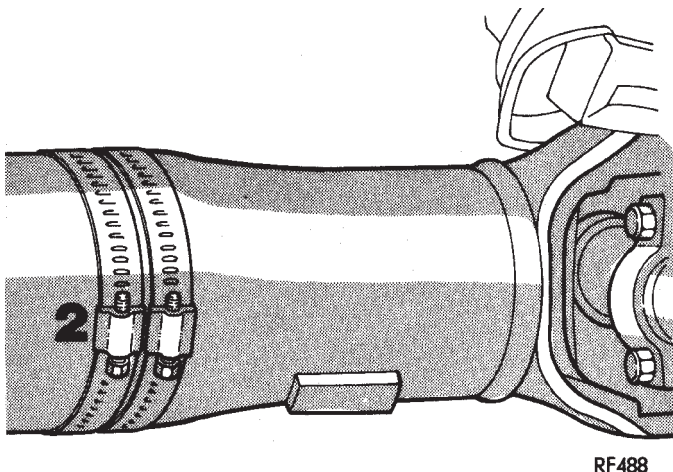

Fig. 5 Two Clamp Screws At The Same Position
(10) Start the engine and re-check for vibration. If there is little or no change in vibration, move the clamp to one of the other three positions. Repeat the vibration test.
(11) If there is no difference in vibration at the other positions, the source of the vibration may not be propeller shaft.
(12) If the vibration decreased, install a second clamp (Fig. 5) and repeat the test.